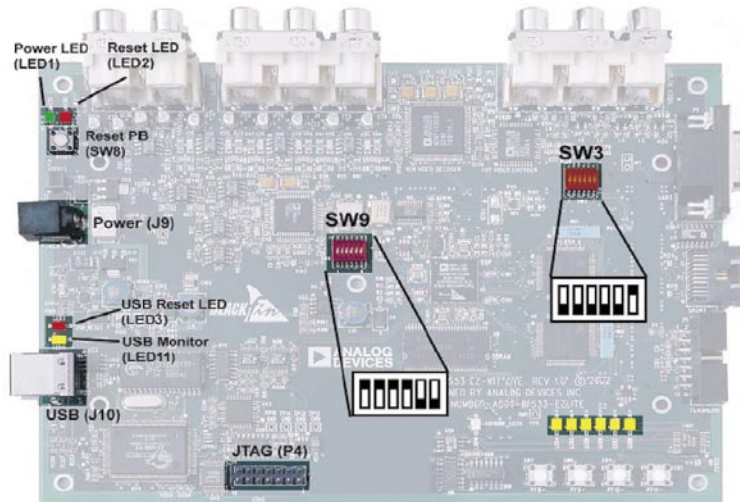

Figure 5. Switch Default Configuration
- Configure the switches as shown in Figure 5.